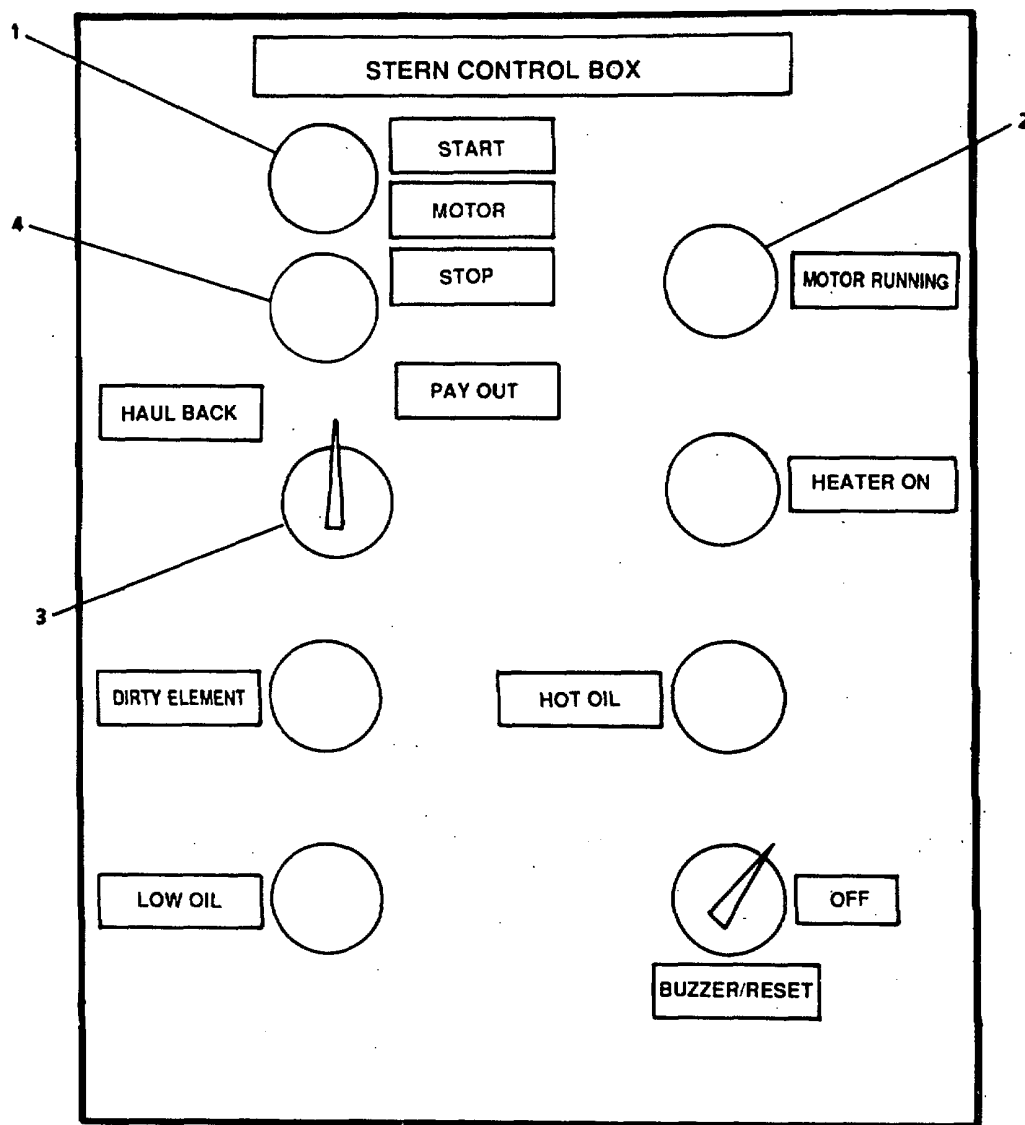

FIGURE 2-181. Main Switchboard.
- (1) On Main Switchboard (FIGURE 2-181), set STERN ANCHOR WINCH circuit breaker (1) to ON position.